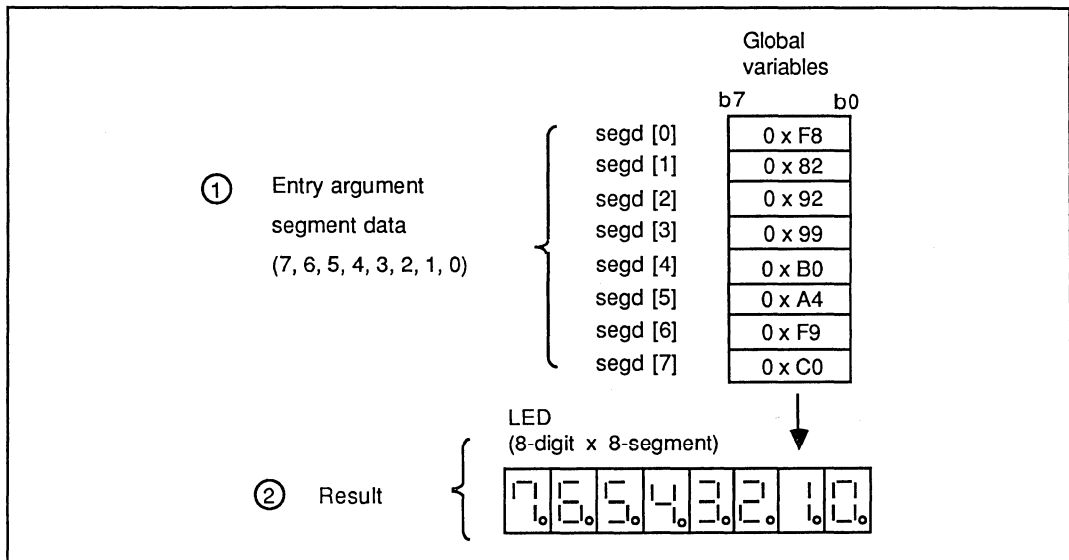

Figure 2-7. Program Module Execution Example
**Example:** Figure 2-7 shows an example of program module 'main' execution.